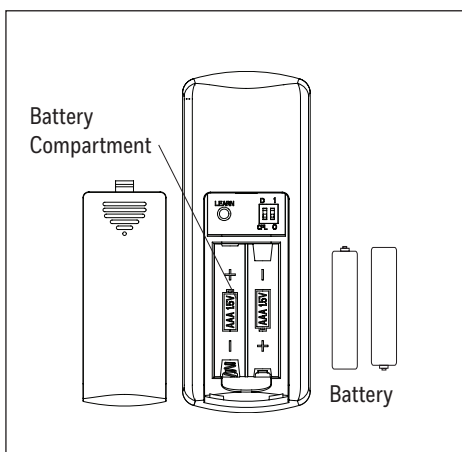

Figure 6.1
1. Use a flat-head screwdriver, if necessary, to remove the battery cover from the back of the remote found in remote pack. Insert the battery into the remote; ensure polarity of battery matches the polarity indicated in the battery compartment -- positive (+) to positive (+) and negative (-) to negative (-). Replace the back cover and press the fan on/off button on the remote to ensure the LED indicator illuminates and the remote turns on the fan (Figure 6.1).
Remote does not work.	<ol style="list-style-type: none"> <li>1. Power surge may have cleared the memory and remote needs to be resynced to the receiver. Syncing instructions: Turn off the power at the breaker box for at least 10 seconds and then turn the power back on. Within 30 seconds, press and hold the "LEARN" button (Figure 6.1) on the back of the remote for 3 seconds. The fan will turn on at high speed and light will blink twice and stay on, signaling a successful synchronization.</li> <li>2. Insert new AAA batteries in battery compartment of the wall control.</li> <li>3. If there are several remote fans in proximity, turn the power off to those fans and re-sync the fan.</li> </ol>